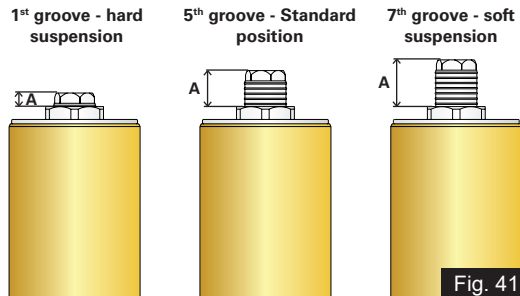

Fig. 41
- The spring preload setting is determined by the distance 'A' or number of grooves. Shorter the distance 'A' or number of grooves indicates higher preload (**ref. Fig. 41**).